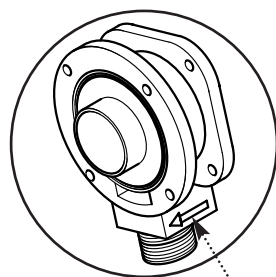

Fig. 50
**IMPORTANT:** When fitting the new venturi, ensure the arrows on its base point into the collector (Fig. 50).